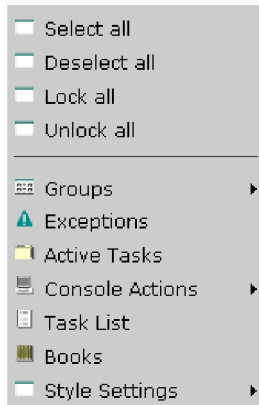

Figure 33. Work area menu
2. Right-click on a spot on the **Defined CPCs Work Area** without an icon. This displays the menu for the *Work* area (see Figure 33 on page 49).
1. Right-click on a spot on the **Defined CPCs Work Area** without an icon. This displays the menu for the *Work* area (see Figure 33 on page 49).
1. Right-click on a spot on the *Work* area without an icon. This displays the menu for the *Work* area as shown in Figure 33 on page 49.